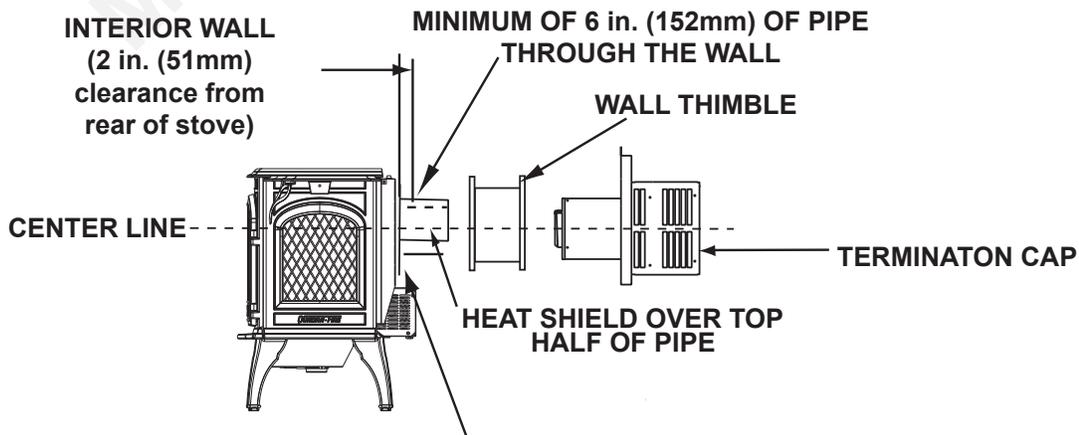

Figure 5.34
**Figure 5.34** When installing the trim ring/heat shield assembly make sure the trim ring is centered in the hole and that the shield is above the pipe. There must be a minimum of 3/4 in. (19mm) minimum clearance maintained to combustibles from the top of the heat shield.